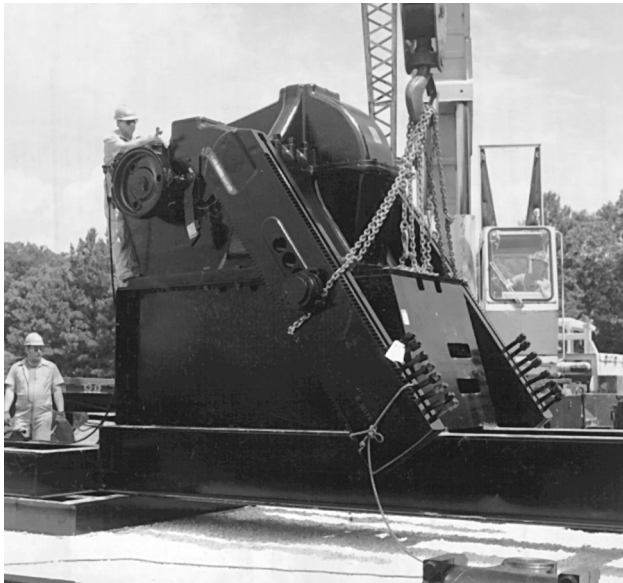

Figure 12
**NOTICE:** Anytime it becomes necessary to rotate the cranks to another position, attach chains to both cranks as shown in Figure 12. Use a long sling to minimize excessive stress on the sling and cranks. After the cranks are in the desired position, set the brake, engage the positive-stop pawl and chain the drum.